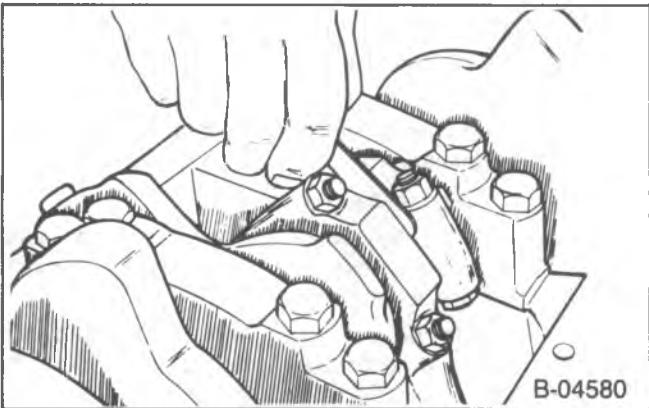

Figure 39—Checking Connecting Rod Side Clearance
Measure (Figure 39)
- Connecting rod side clearance. Use a feeler gage between the connecting rod and crankshaft (figure 39). The correct clearance is 0.17-0.63 mm.